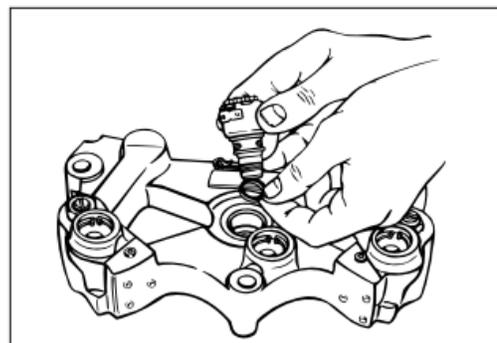

FIG. 2
5. Coat the new solenoid seal rings with clean lube oil. Install the upper and center seal rings on the solenoid body and the lower seal ring into the bottom of the solenoid bore in the housing (see Fig. 2).